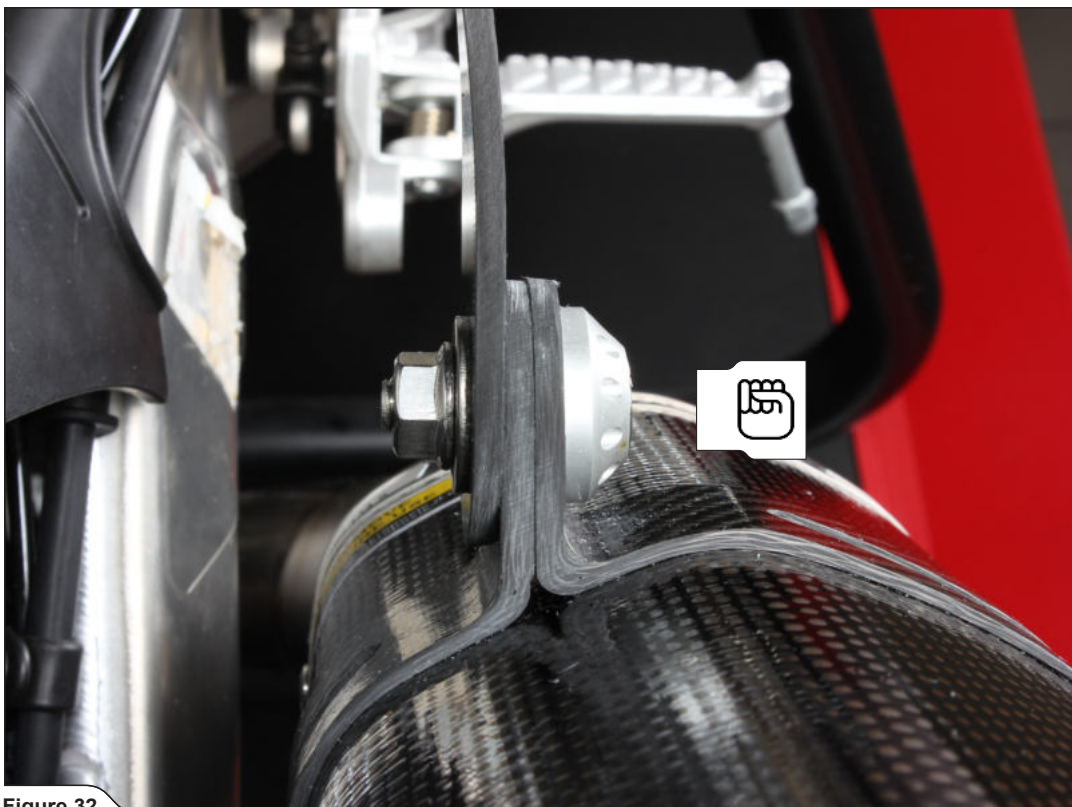

Figure 32
15. Hand tighten the carbon-fiber clamp onto the muffler's bracket, using bolt, nut and washer from installation kit and stock Aluminium washer (Figure 32).